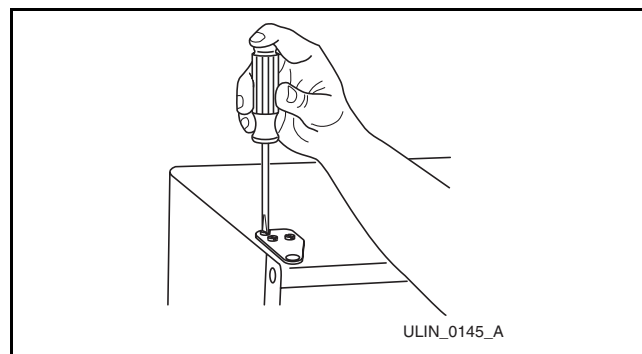

Figure 24
14. Place the door latch assembly on opposite side of unit. Be sure to tighten all three screws securely (**Figure 24**).
15. Place door on lower hinge pin. Invert and install upper hinge on door. Fasten upper hinge to unit (three screws) (**Figure 24**). Partially tighten screws.